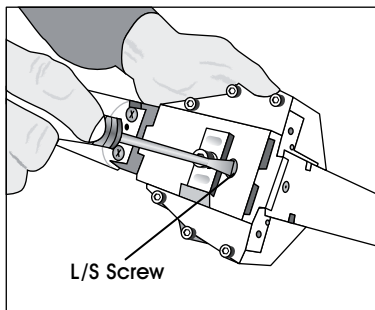

Figure 4
2. Adjust L/S screw with a screwdriver to the desired setting. (See Figure 4)